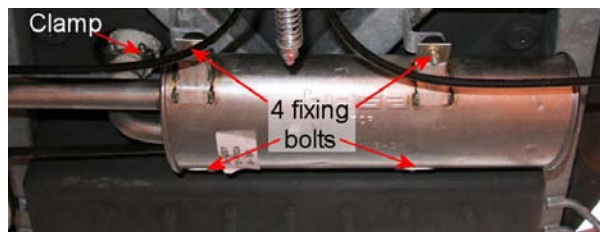

Fig 5-8 Exhaust chamber fixing points
2. Remove the four screws securing the exhaust chamber (Fig 5-8) and remove the chamber.